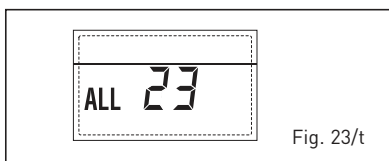

Fig. 23/t
- SOLAR COLLECTOR SENSOR ERROR (S1) "ALL 24" (fig. 23/18)